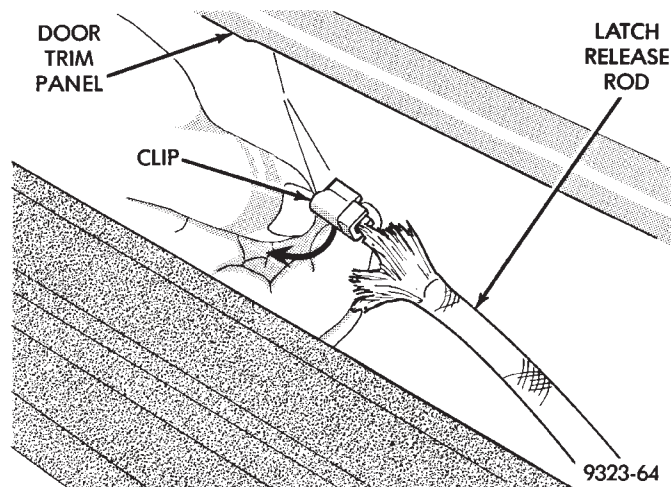

Fig. 14 Door Latch Handle Rod
(12) Disengage clip holding linkage rod to inside latch handle and separate rod from handle (Fig. 14).
(5) Insert latch rod into clip on latch handle. Engage clip to hold rod to handle (Fig. 14).
(6) Engage wire connector to speaker, if equipped.
(7) Engage wire connector to power door lock switch, if equipped.
(8) Engage trim panel into channel retainer at top door.
(9) If wire harness was removed with door trim panel, route harness under weatherstrip. Engage door jamb connector. Install fasteners to hold wire